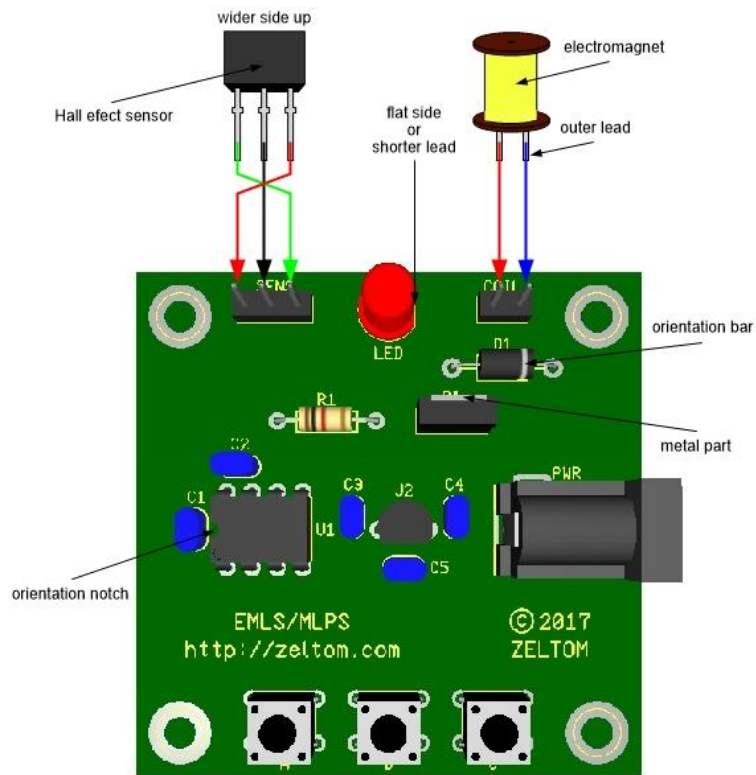

Figure 2. Electrical assembly.
- Mount the components U1, U2, Q1, D1, R1, C1, C2, C3, C4, C5, A, B, C, LED, PWR connector, COIL header and SENS header on the PCB as shown in Figure 2. The orientations of U1, U2, Q1, D1 and LED are important and they should be mounted according to their footprints on the top side of the PCB. The orientations of R1, C1, C2, C3, C4 and C5 are not important.